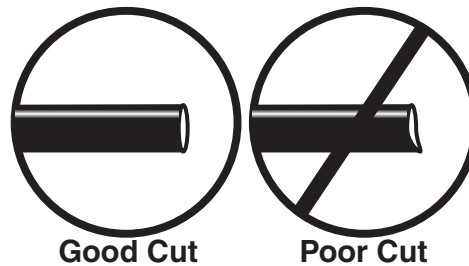

fig. 3
WHEN CUTTING OR TRIMMING THE AIR LINE, USE A HOSE CUTTER, A RAZOR BLADE OR A SHARP KNIFE. A CLEAN, SQUARE CUT WILL ENSURE AGAINST LEAKS. DO NOT USE WIRE CUTTERS OR SCISSORS TO CUT THE AIR LINE. THESE TOOLS MAY FLATTEN OR CRIMP THE AIR LINE, CAUSING IT TO LEAK AROUND THE O-RING SEAL INSIDE THE ELBOW FITTING (FIG. 3)
- Cut off air line leaving approximately 12" of extra air line. A clean square cut will ensure against leaks (see fig. 3). Insert the air line into the air fitting. This is a push to connect fitting. Simply push the air line into the 90 degree swivel fitting until it bottoms out (9/16" of air line should be in the fitting).